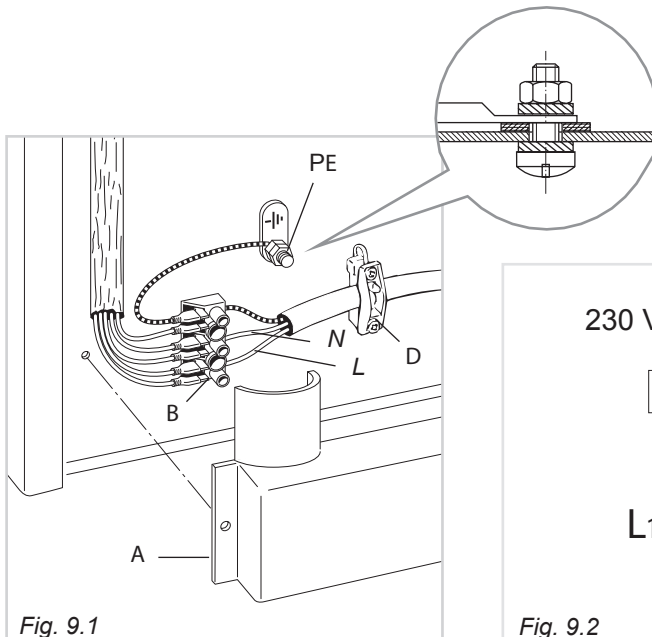
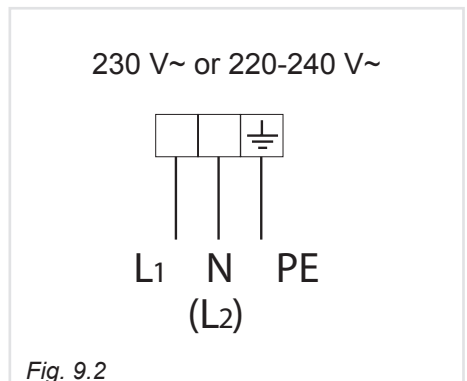

Fig. 9.1
Fig. 9.2
- Remove the screws securing the cover “A” on the rear of the cooker (fig. 9.1).
- Feed the supply cable through the cable clamp “D” (fig. 9.1). The supply cable must be of a suitable size for the current requirements of the appliance; see the section “Feeder cable specifications”.
- Connect the wires to the terminal block “B” as shown in the diagram in figure 9.2; or connect the phase and neutral wires to the terminal block “B” and the earth wire to the terminal “PE” as shown in figure 9.1.